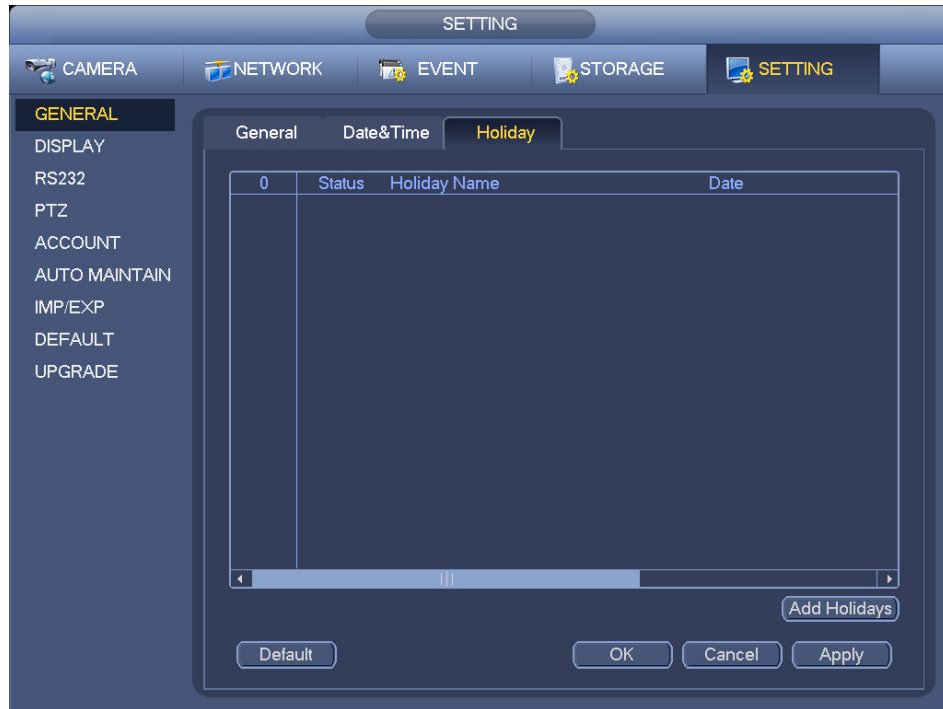

Figure 3-59
- a) From Mani menu->Setting->System->General, you can go to the following interface. See Figure 3-59.